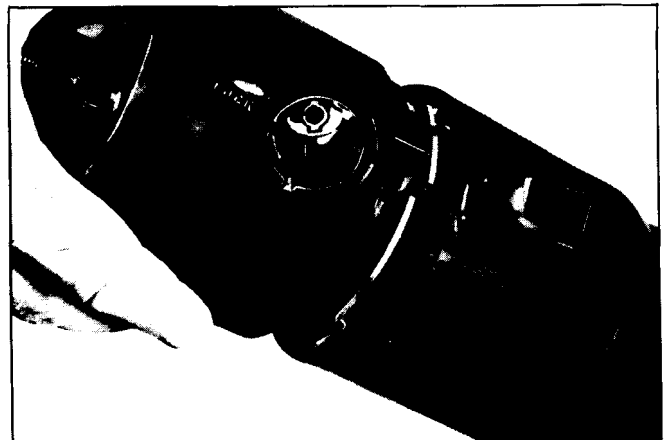

Fig. 9-40 Removing Upper Bearing Housing
10. Remove the four screws attaching the upper bearing housing to the jacket. Remove the upper housing assembly (Fig. 9-40).